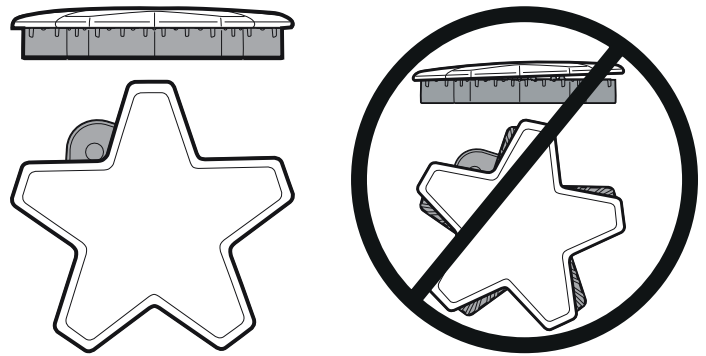

Figure 9: Correct and Incorrect Burner Cap Placement
- Check each burner to make sure there is no gap between the burner cap and burner base. See *Figure 9: Correct and Incorrect Burner Cap Placement* to see examples of correct and incorrect placements of the burner cap.
- You may gently try to move the burner caps from side to side to check if the caps are properly placed on the burner bases. When properly placed, each burner cap will rest flat on top of its burner base, and completely cover the star-shape of the burner base when viewed from the top as shown in *Figure 9*.